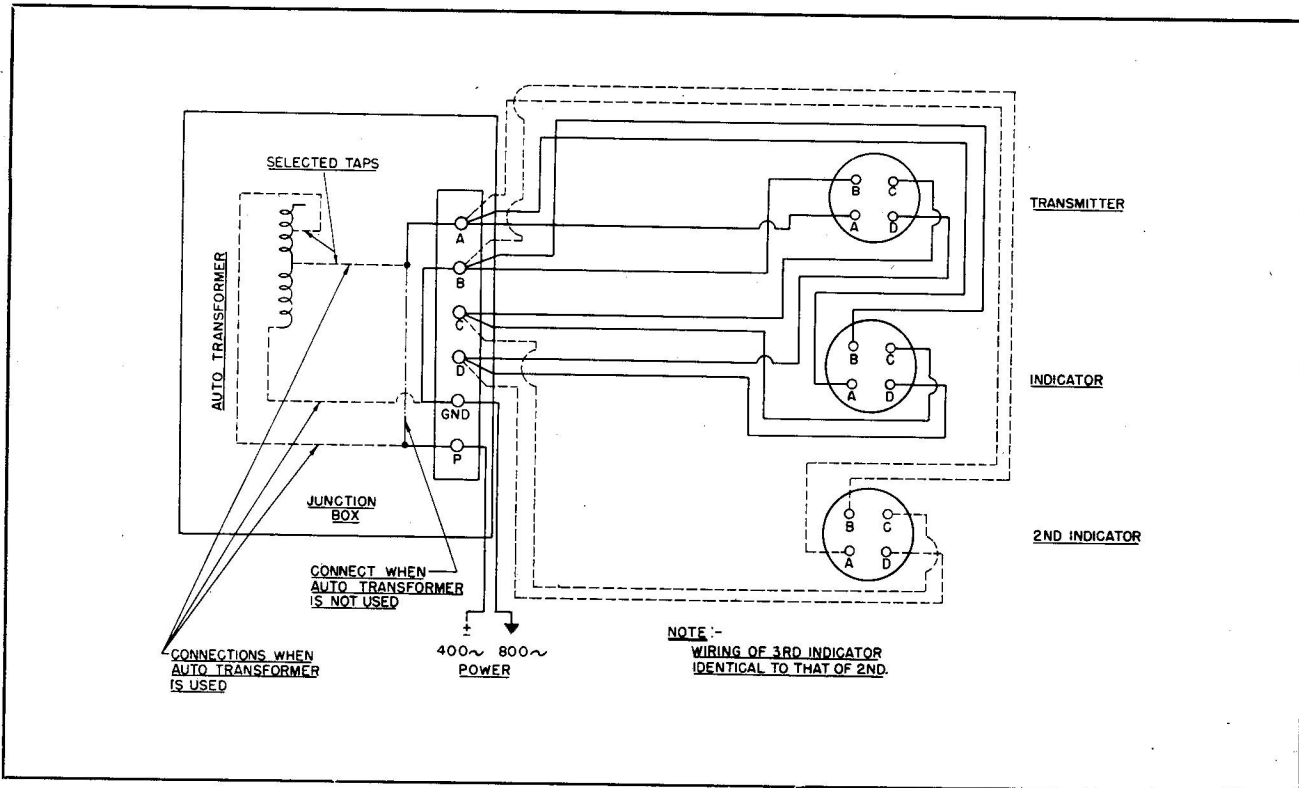

Figure 9—External Wiring Diagram—Army Installation
(2) The electrical connections both to the indicators and to the transmitter are made to the AN standard disconnect plug receptacle on each unit. Each terminal is plainly lettered on the receptacle. It is essential to connect like designated terminals together between the transmitter and the indicator. The "B" terminal is common to all receptacles and must be externally grounded at the junction box. This ground must be made at only one point. It is very important that a good ground connection be made. An intermittent contact on the ground circuit will place a heavy strain on the instruments and may affect their calibration. Care also must be employed to avoid any reversal of leads between the transmitter and the indicator, since such a reversal will cause incorrect indication.
(3) Both the indicator and transmitter have a 4-terminal receptacle; the leads connecting these units are carried in flexible shielded cables. The input leads must be No. 18 stranded wire. The other connecting leads must be no smaller than No. 22 stranded wire. Wire connections must be made as shown in the external wiring diagram. (See figures 9 and 10.) A suitable junction box with the proper number of outlets should be provided. Where a source of power of 26 volts at 400 cycles, or of 52 volts at 800 cycles is not available, an auto transformer must be inserted in the junction box to transform the voltage available to the required voltage, provided that the frequency available is either 400 cycles  $\pm$  10 percent or 800 cycles  $\pm$  10 percent. Inverter, Pioneer type 12117-2-A, may be used as a source of power. (See figures 8, 9, and 10.)